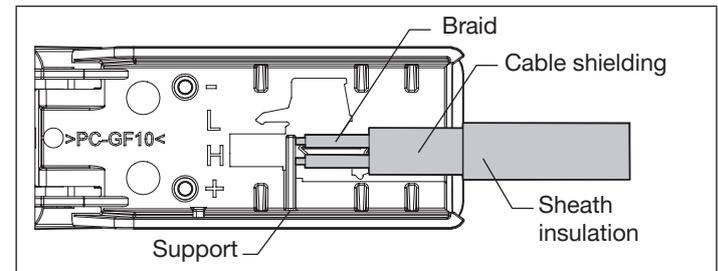

Fig. 17: Assembly of the cable for the electrical connection
**Cable assembly:** (See Fig. 17)